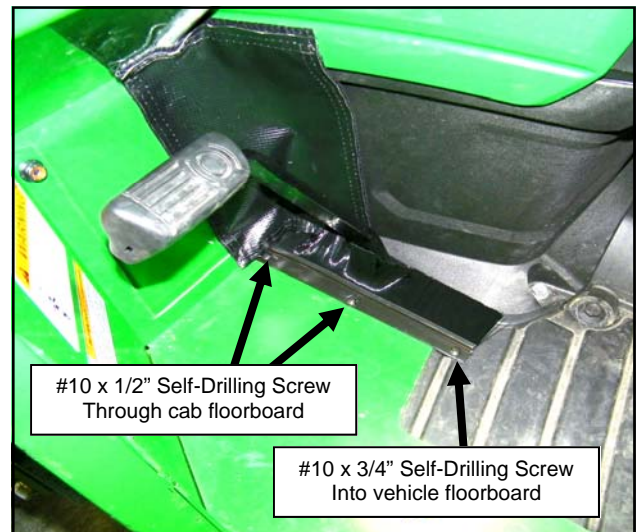

Fig. 1.2 (Attach Brush to Left A-Pillar)
- 1.2 Attach the longer brush to the left of the brake pedals with two 1/2" long self-drilling screws through the pre-drilled holes in the left cab floorboard. See Figure 1.2. Secure the rear of the brush to the vehicle floorboard with one 3/4" long self-drilling screw.